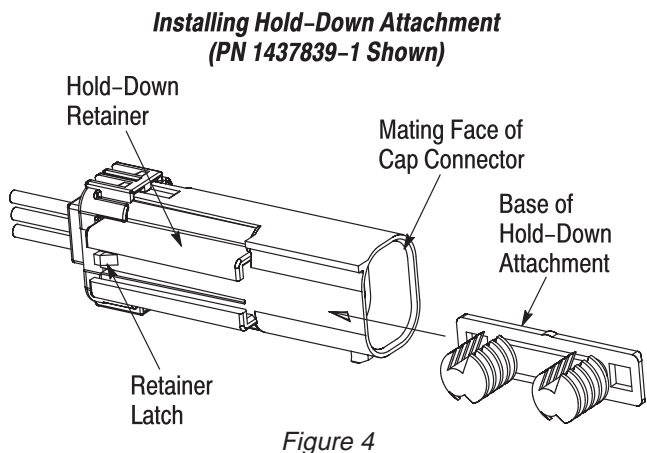

Figure 4
1. Align the hold-down attachment with the mating face of the cap connector so that the end of the base faces the end of the hold-down retainer of the cap connector. See Figure 4.